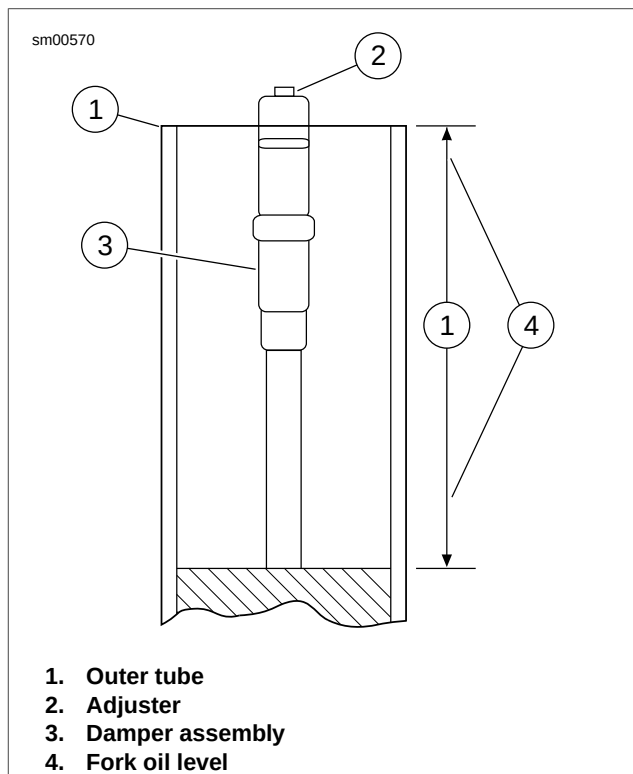

Figure 2-83. Measuring Fork Oil Level
17. See Figure 2-83. Adjust fork oil level with FRONT FORK OIL LEVEL GAUGE (Part No. B-59000A) to the specified level below the top of the fork tube. Refer to Table 2-20.